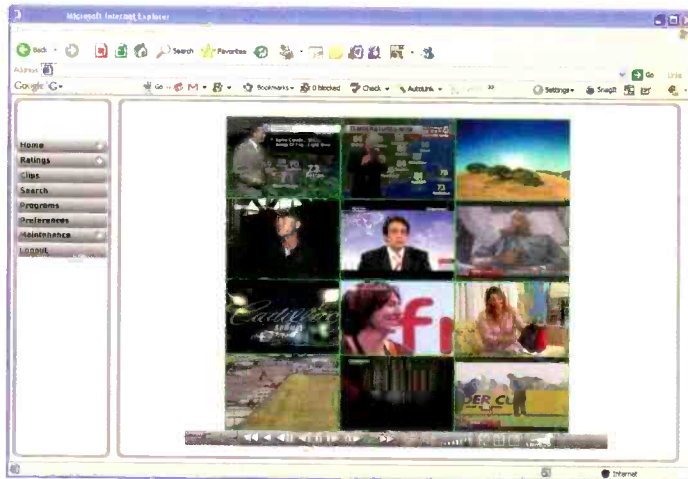

Figure 3. A monitoring system should have the capability to show multiple video streams simultaneously.
- *Multichannel display.* The system displays multiple video streams simultaneously on a single screen to enable side-by-side comparisons and other types of video analysis. (See Figure 3.)